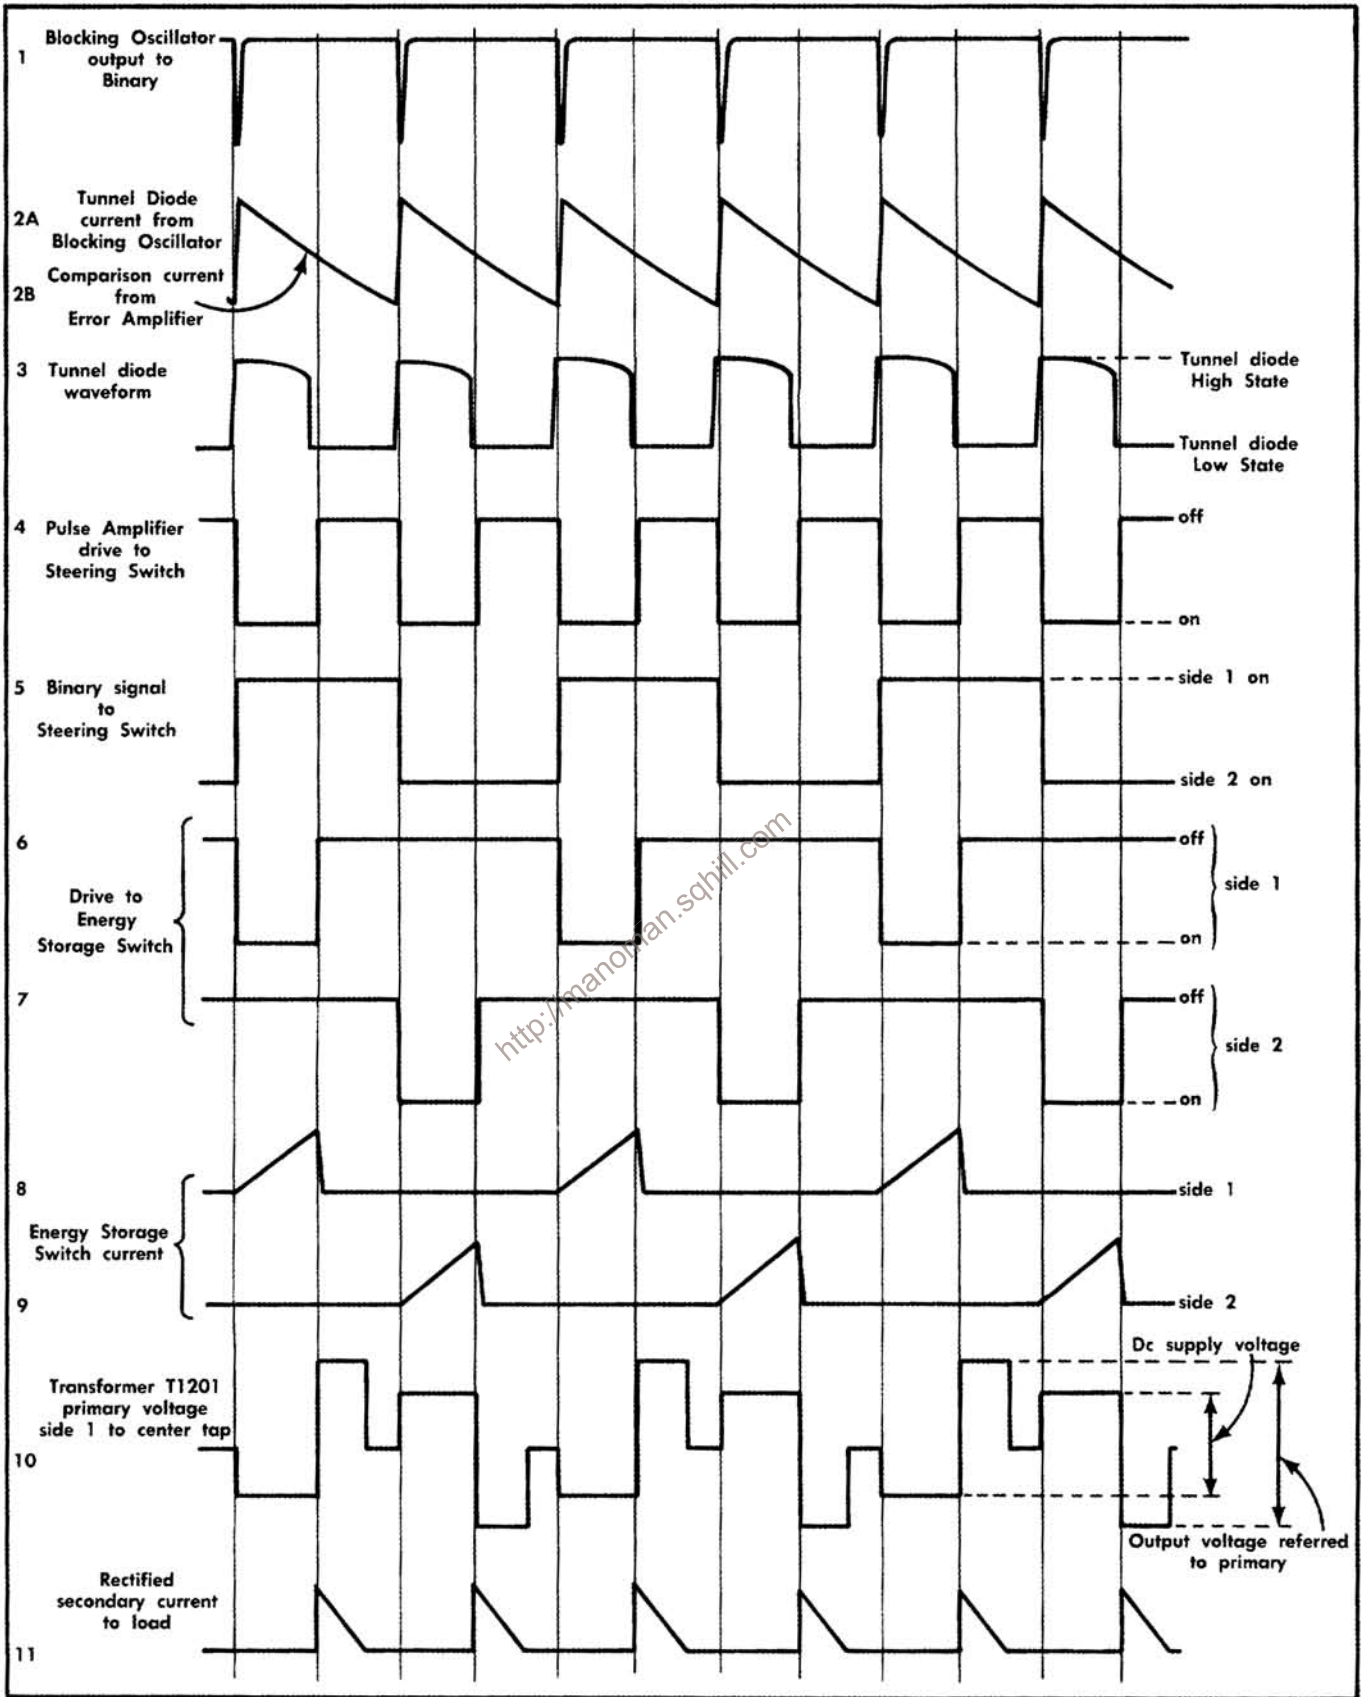

Fig. 3-2. Waveform ladder showing idealized Block Diagram Power Regulator waveform relationships.
In practice, a symmetrical double-sided arrangement is used, with the two sides acting alternately. The magnetic energy is stored in the core of T1201, charging through the primary winding and discharging from the secondaries. Dc power from the Power Selector Switch is connected between the primary center tap and ground reference. The two ends of the primary are alternately grounded by saturating switches Q1174, Q1184 through the reverse voltage disconnect diodes D1176 and D1186. The secondary rectifier diodes, filter capacitors and load currents replace D1, C1 and R1 of Fig. 3-1, respectively. Idealized voltage and current waveforms for the circuit are shown in Fig. 3-2 (waveforms 8-11). Filter elements localize large high-speed
Block Layout. The block layout of the entire Dc-Dc Regulator is shown in the Block Diagram, and its associated idealized waveforms in Fig. 3-2. Timing for the converter is provided by a free-running Blocking Oscillator (Q1120), which generates:
- a. A 7-kc train of negative going pulses (waveform 1, Fig. 3-2) which alternately switch the Binary Q1105, Q1115.